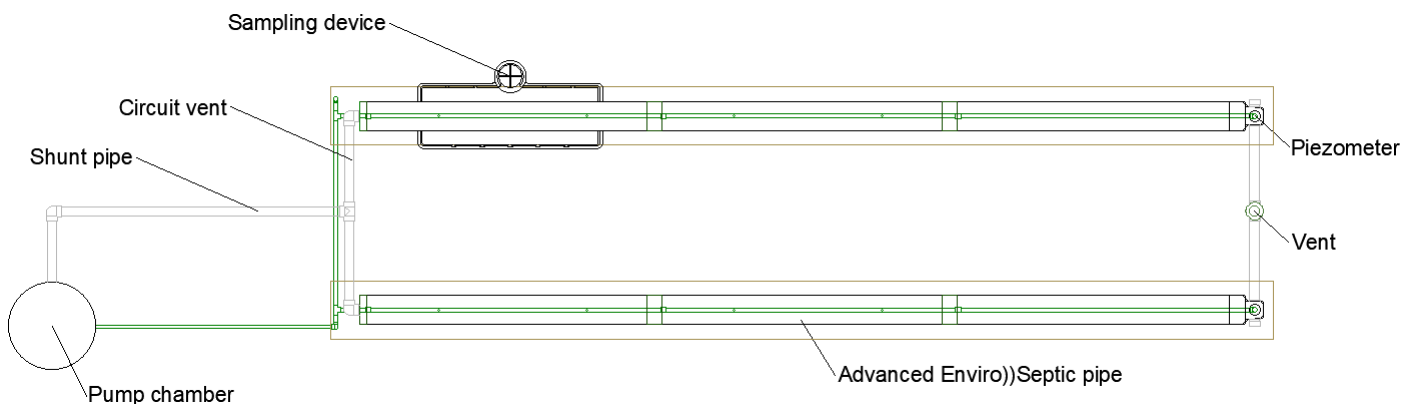

Figure 50. Nested pipe configuration – Air flow circuit
- Install a shunt pipe (also known as an air by-pass pipe) between the treatment system and the pumping station in order to re-establish the air circuit, as seen in Figure 50;